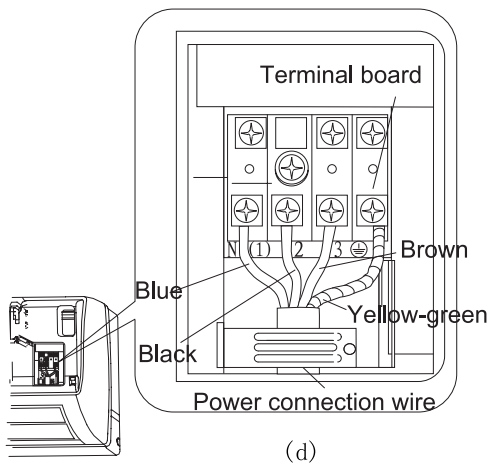

Fig.9-3
- Screw off the fixing screw of cover plate for wiring terminals , as shown in Fig.9-3 (a);
- For one to one unit to connect the blue power connecting line to terminal “N(1)” at the terminal box and the brown line, to “2”, the yellow/green (ground line) to ground to  as shown in Fig.9-3(b); For one to two unit to connect the blue power connecting line to terminal “N(1)”, the red line to “2”, brown line to “3”, the yellow/green (ground line) to ground to  as shown in Fig. 9-3(d); Press tightly the power lines with the line pressure groove turned forward at the connection bar in the electric box.
- As to the heat pump, the signal control line is connected to indoor unit with connector as shown in Fig.9-3(c),(d);